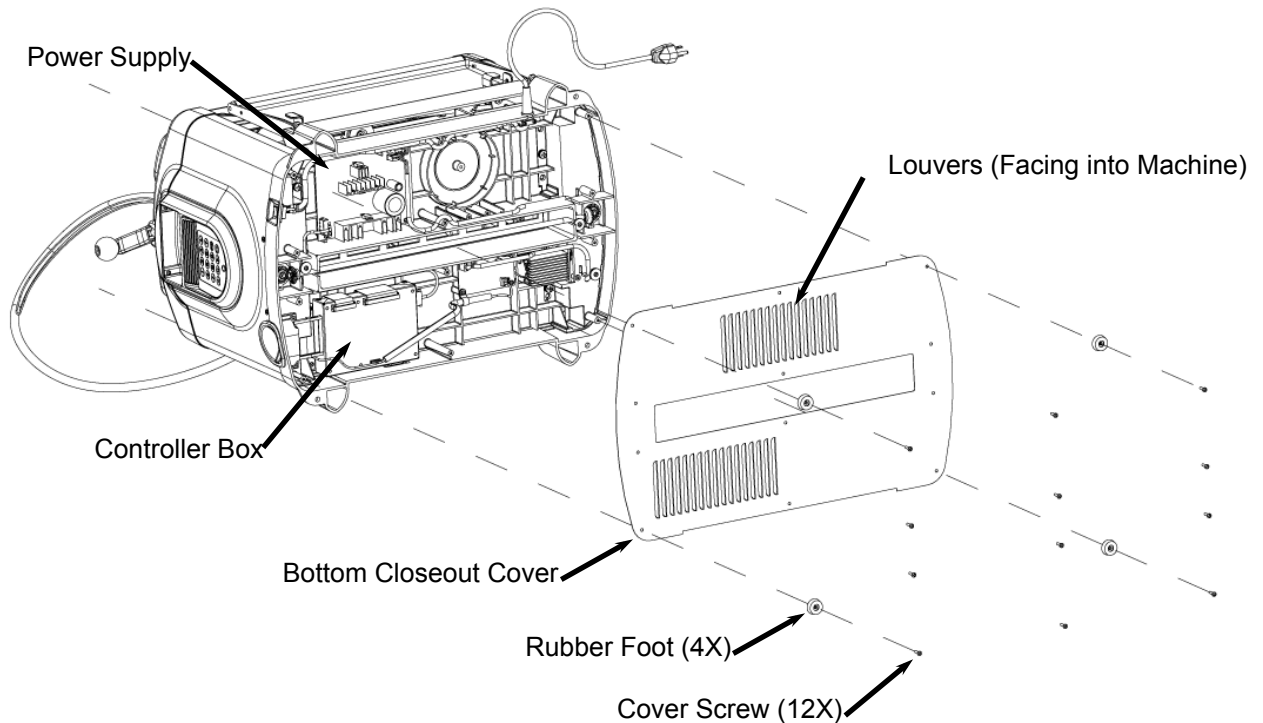

FIGURE 25: REMOVAL OF THE BOTTOM COVER
1. **Replace the bottom cover.** Replace the metal cover with the louvers pointing into the machine (see Figure 25). Insert and tighten the 12 screws. The four rubber feet are placed at the corners of the machine.